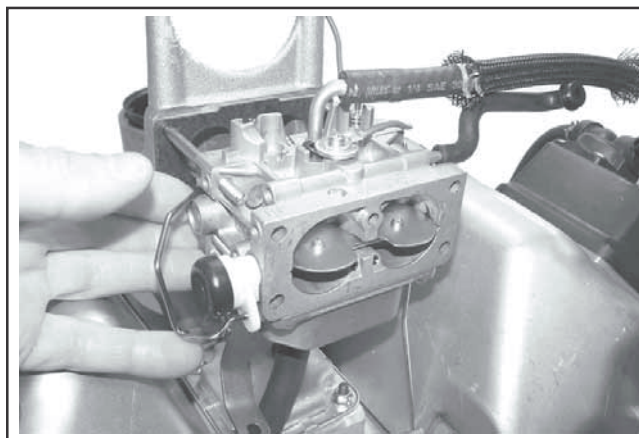

Figure 8-14. Removing Carburetor.
3. Remove the carburetor and linkages with choke return components as an assembly. See Figure 8-14.